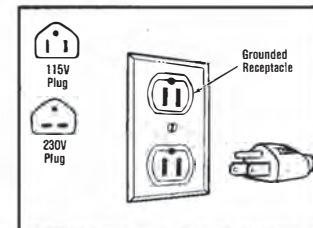

Figure 2. Machine Grounding Instructions.
- 3. Ground Machine (Fig. 2).** This machine should be grounded while in use to protect the operator from electric shock. The machine is equipped with an approved three-conductor cord and three-prong grounding type plug to fit the proper grounding type receptacle. The green (or green and yellow) conductor in the cord is the grounding wire. Never connect the green (or green and yellow) wire to a live terminal. If your unit is for use on less than 150 volts, it has a 115V plug. If it is for use on 150 to 250 volts, it has a 230V plug.